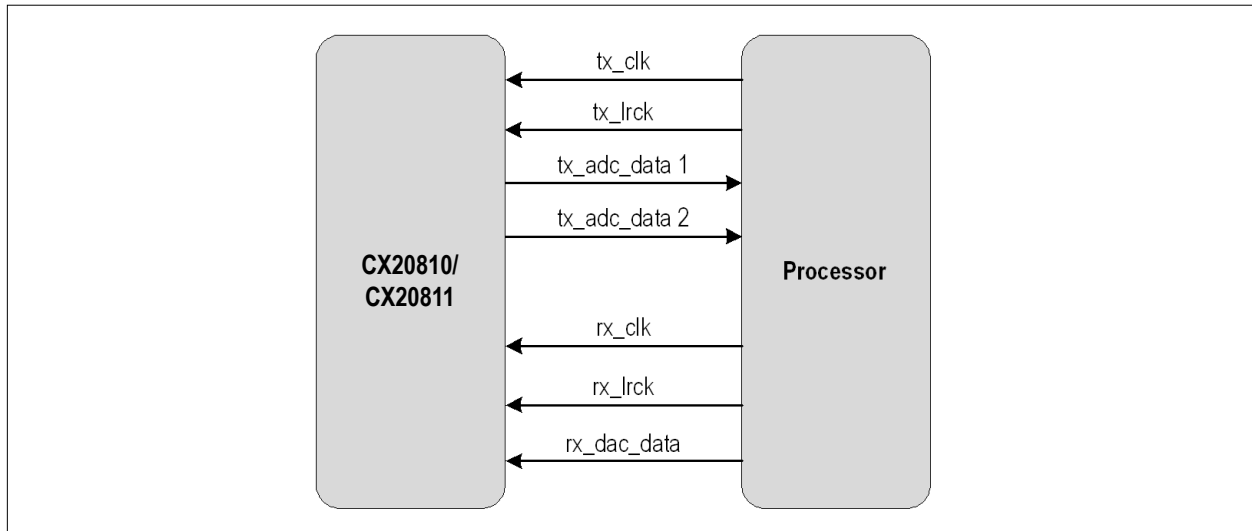

Figure 86: Seven-Wire Slave Mode
- Figure 86 provides the seven-wire slave mode